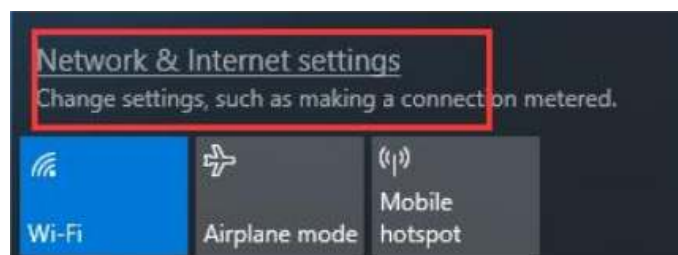

Figure 8: Network and Internet Settings (Windows 10)
1. Left-click on the network icon and press “Network & Internet settings” (Windows 10) or “Open Network and Sharing Center” (Windows 7) (see Figs. 8 and 9).